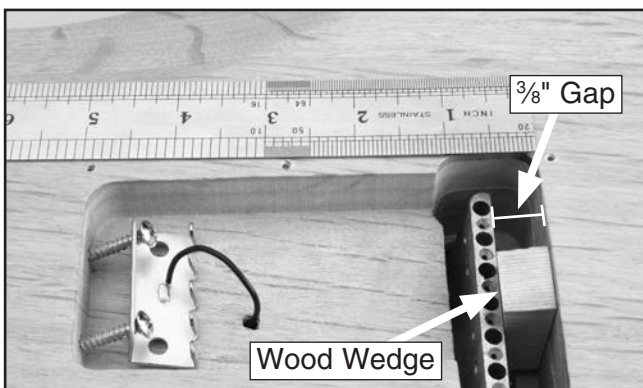

Figure 36. Tremolo wedge.
1. Remove the back plate and tremolo springs, and place a wood wedge between the tremolo block and tremolo cavity back (**Figure 36**).
2. Adjust the wedge until there is a $\frac{3}{8}$ " gap between the tremolo block and the back of the tremolo cavity as shown in **Figure 36**.